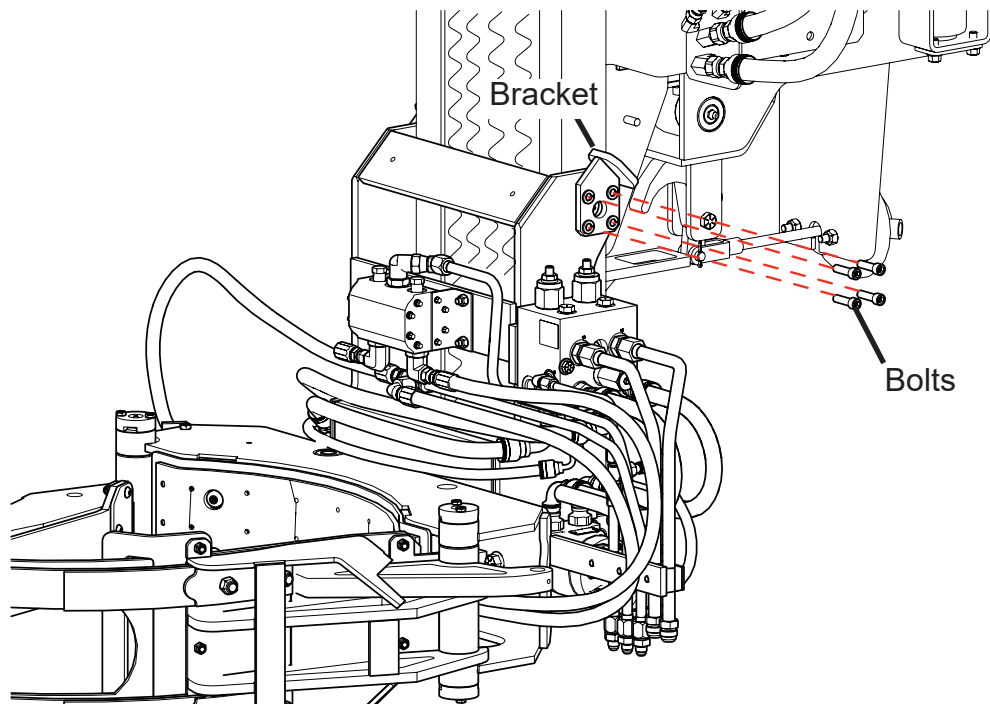

Figure 2
5. Remove and retain all four grabber roller sets that hold the grabber carriage assembly to the mast — Figure 2 shows one of the top sets and Figure 3 shows the bottom sets. A set consists of a roller, bracket, and bolts (and proximity switch flag bracket if installed).